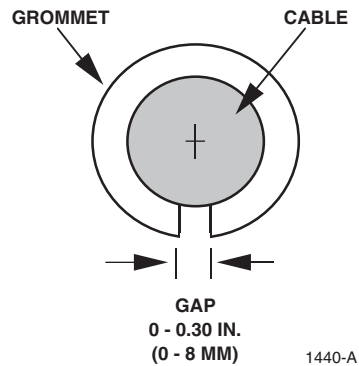

Figure 12. Grommet Selection
3. Two rubber yokes and either three or four grommets (depending on the kit) are provided with the cable clamp kit for securing the cable to the panel. Select the grommet that, when fitted on the cable, as shown in Figure 12, provides the gap width shown.